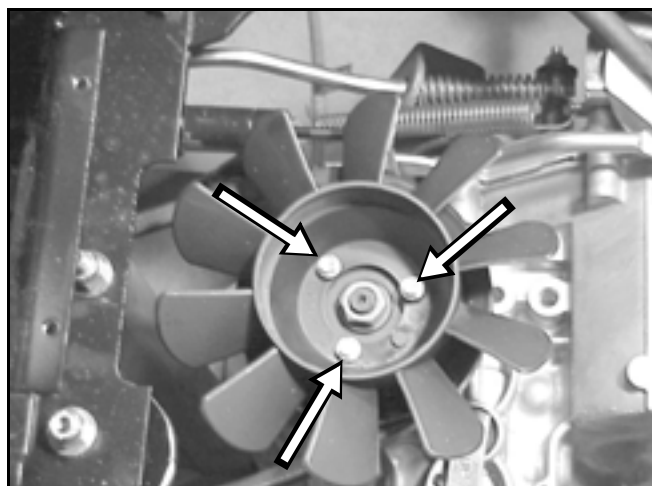

Figure 123
8. Remove the three bolts retaining the transmission fan to the pulley (Figure 123).